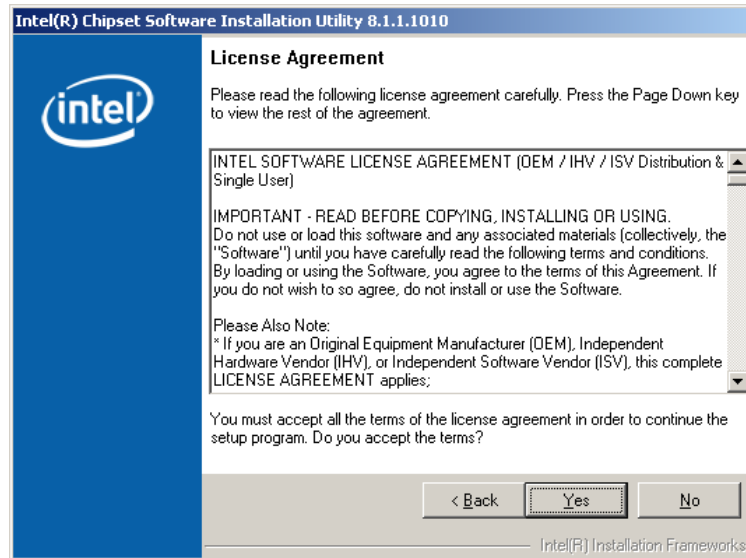

Figure 7-5: Chipset Driver Installation License Agreement
Step 6: The license agreement in **Figure 7-5** appears.